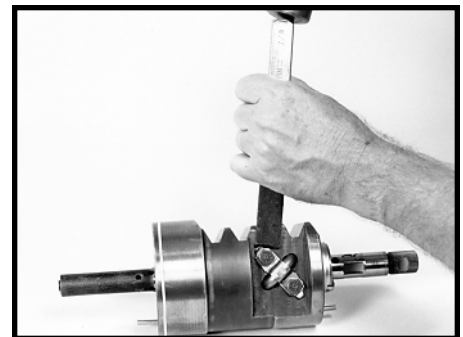

Figure 108
8. If your gear is equipped with the ball return guide clip (44), install it so that both bolt hole faces are in full contact with the rack piston surface. Install two new lock tabs (45) and the two hex head bolts (46). Torque the bolts to 14-22 ft. lbs. (19-30 N m). Finish by bending the locking tabs up against the bolt head flats. 1/2 inch socket required. SEE FIGURE 108.